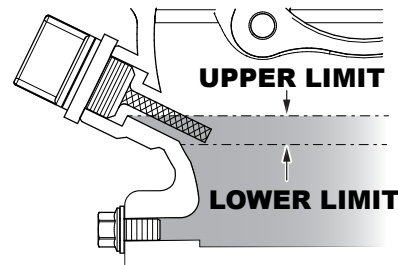

Figure 6. Engine Oil DipStick (Oil Level)
4. If the oil level is low (See Figure 6), fill to the edge of the oil filler hole with the recommended oil type (Table 4). Maximum oil capacity is 1.16 quarts (1.1 liters).